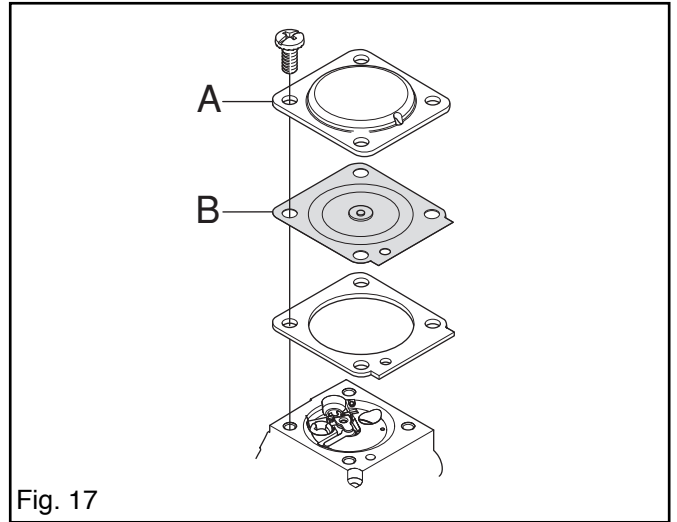

Fig. 17
7. Fit the control diaphragm (B) with gasket and cover (A) on the metering unit. See fig. 17.
8. Fit the axle (L) on the air shutter and connect the throttle actuator rod (N) in parallel with the ordinary throttle valve. The valve housing (P) is secured in the carburettor using two screws.